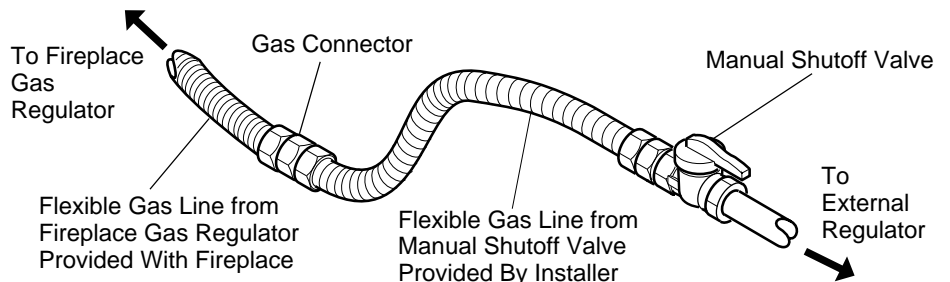

Figure 25 - Attaching Flexible Gas Lines Together
4. Apply pipe joint sealant lightly to male threads of gas connector attached to flexible gas line (see Figure 25). Connect flexible gas line to flexible gas line attached to gas regulator of fireplace (see Figure 25).